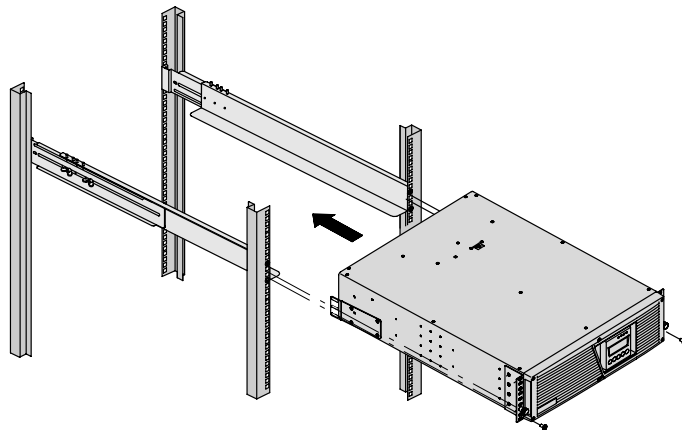

Figure 9. Installing the Cabinets
- 13.** Secure the front of the cabinet to the rack using two M6 × 12 mm round-head screws on each side (see Figure 9).